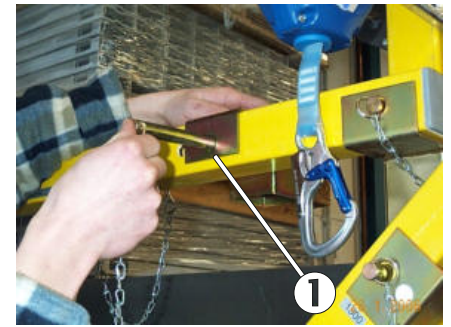

Fig. 83: Determining the correct insertion position
In addition to the stanchion itself, the appropriate fastening bolt is needed for the front vertical rail stanchion. First, examine the outer tube of the upper horizontal bar to decide where the fastening bolt is to be secured using a long locking pin. The aim is to be able to mount the wall anchor as near as possible to shaft wall inside the shaft. It is to be mounted above the lintel (fig. 83/pos. 1).